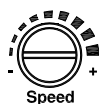

Figure 3
- a. A motor mounted potentiometer is mounted on the case of the motor to adjust the speed manually. See Figure 3. Turn the potentiometer using a screwdriver to adjust the speed.